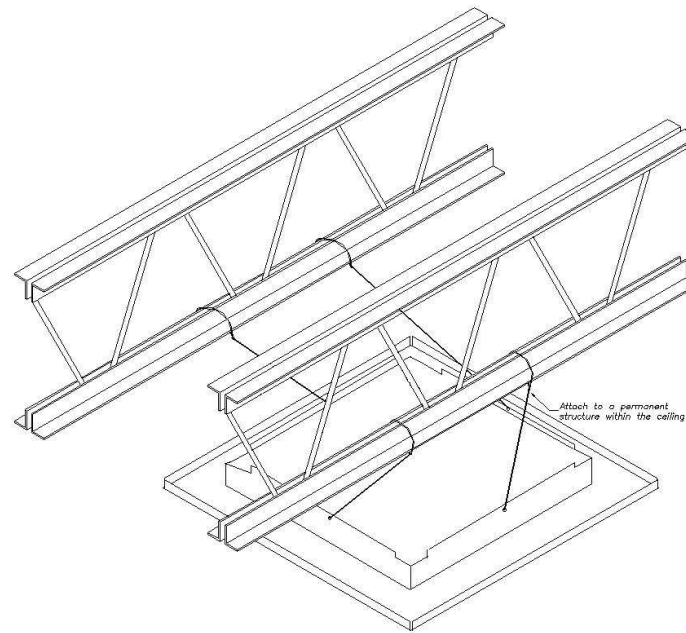

Figure 4 - Grid Wire Installation
Step 12 – After the enclosure has been placed in the ceiling tile grid use minimum 12-gauge grid wire to attach the enclosure assembly to the ceiling. Attach one end of the wire to the openings along the center of each side and the other end to a permanent structure within the ceiling such as a ceiling joist (ref. Figure 4).